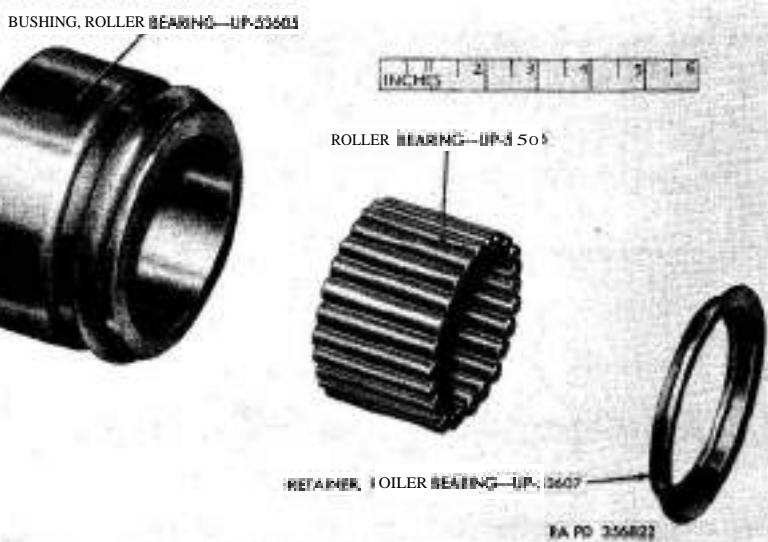

Figure 145. Roller bearing assembly—exploded view.
Note. From a reclamation standpoint, the roller bearing assemblies (B, F, V, and Y) can be disassembled (fig. 145).
- a. *Inspect Journals.* Inspect journals (J) for wear, corrosion, scores, cracks, or other visual damage. If wear is evident, measure journal pins with a micrometer. If the journal is not in good condition or the diameter of the journal pins is less than the wear limit in paragraph 347, replace journal.
- b. *Inspect Roller Bearing Bushings* (fig. 145). Inspect roller bearing bushings for wear, corrosion, scores, or cracks. If wear is evident, measure diameter of inside and outside ground surfaces. If the outside dimension is less or the inside dimension more than the wear limits specified in paragraph 347, replace bushings.
- c. *Inspect Bearing Rollers* (fig. 145). Measure diameter of bearing rollers with a micrometer and if dimension is less than the limit specified in paragraph 347, replace rollers.
b. Assemble Bearing Rollers in Roller Bearing Bushings (fig. 145). If the roller bearing assemblies were disassembled, apply general purpose grease (GAA) in the roller bearing bushings and insert 25 bearing rollers in each bushing. Install bearing roller retainer (cup side in) and make certain retainer is firmly seated.
- (1) Install bearing oil seal retainers (D, H, T, and AA) on journals (J). Make certain the retainers are properly seated on journal shoulders.
- (2) Soak bearing oil seals (C, G, U, and Z) in light engine oil for approximately 30 minutes before installation. Install oil seals on journals.